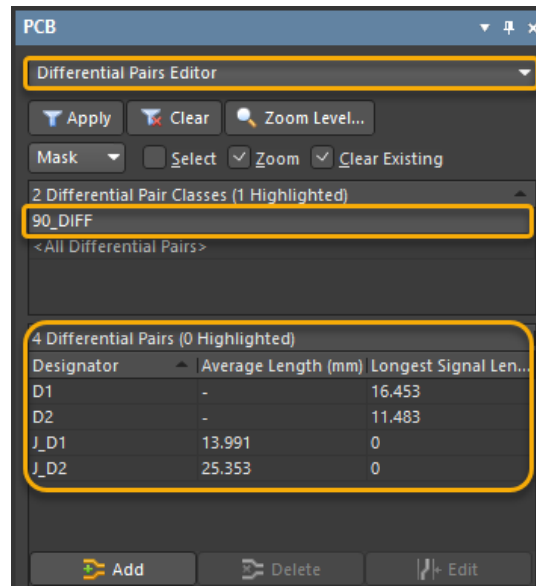
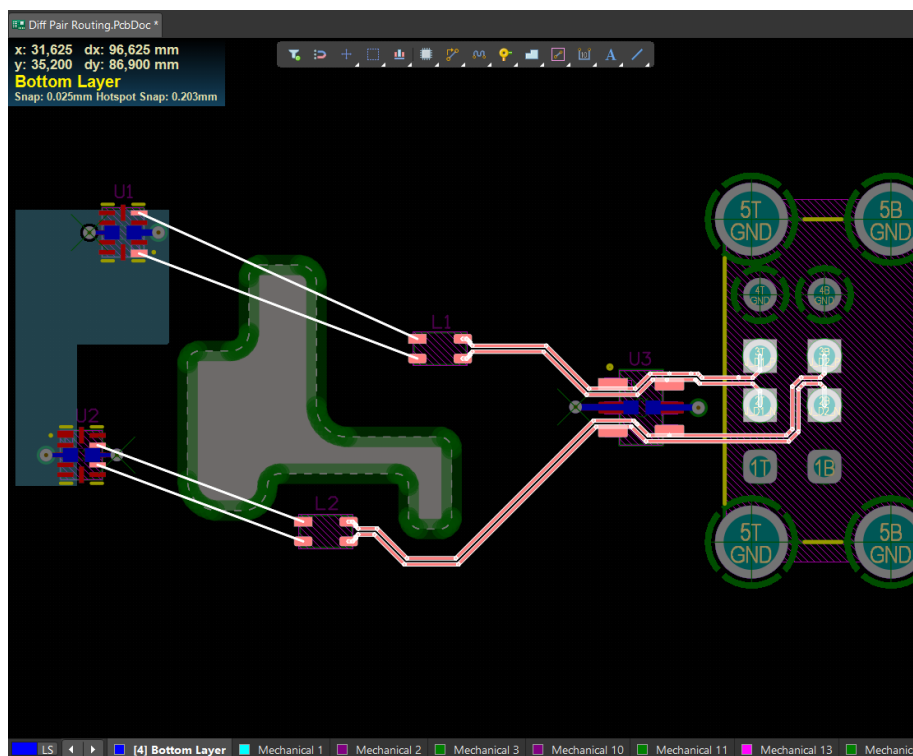

Figure 11. Differential Pairs Editor
Figure 12. Differential Pair - 90 Ohm
35. Using the *PCB* panel, first let's check what information has been transferred to the PCB. Select the **Differential Pairs Editor** from in the *PCB* panel, and notice four differential pairs in the PCB, Figure 11 and Figure 12.